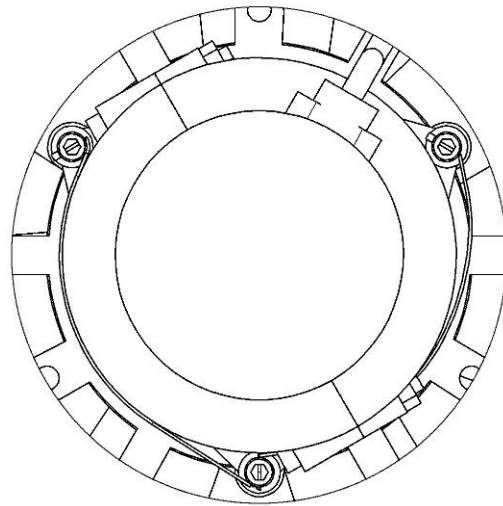

Figure 2
3. Attach AS3510-0224K locking cable or MS20995C32 locking wire to 3x MS24678-14 fasteners as shown in Figure 2, installing per the double-twist method specified in AC 43.13-1B Chapter 7 Section 7.